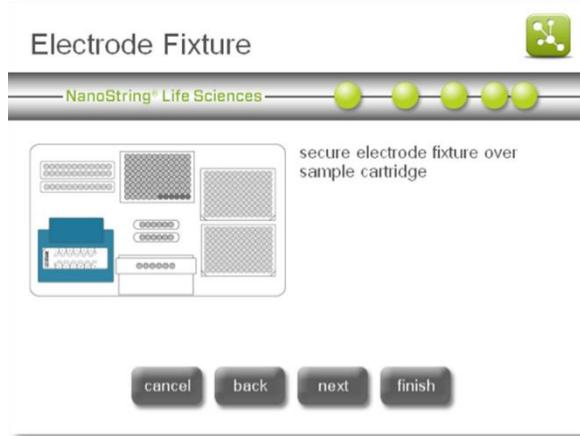
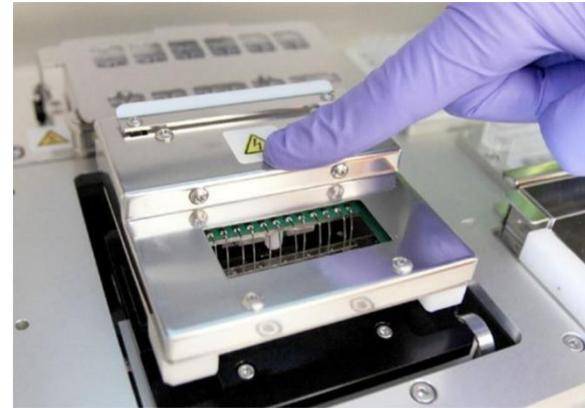

Figure 26: The ‘Electrode Fixture’ screen.
Figure 27: Carefully lower the electrode fixture into place over the cartridge.
10. The ‘Electrode Fixture’ screen will appear (**Figure 26**). Carefully lower the electrode fixture in place over the cartridge (**Figure 27**). The 24 electrodes should insert into the 24 wells. Press **next**.
**IMPORTANT:** Do not use the release handle while lowering the fixture. Doing so will prevent the fixture from locking. Press on the body of the fixture away from the release handle (**Figure 27**).